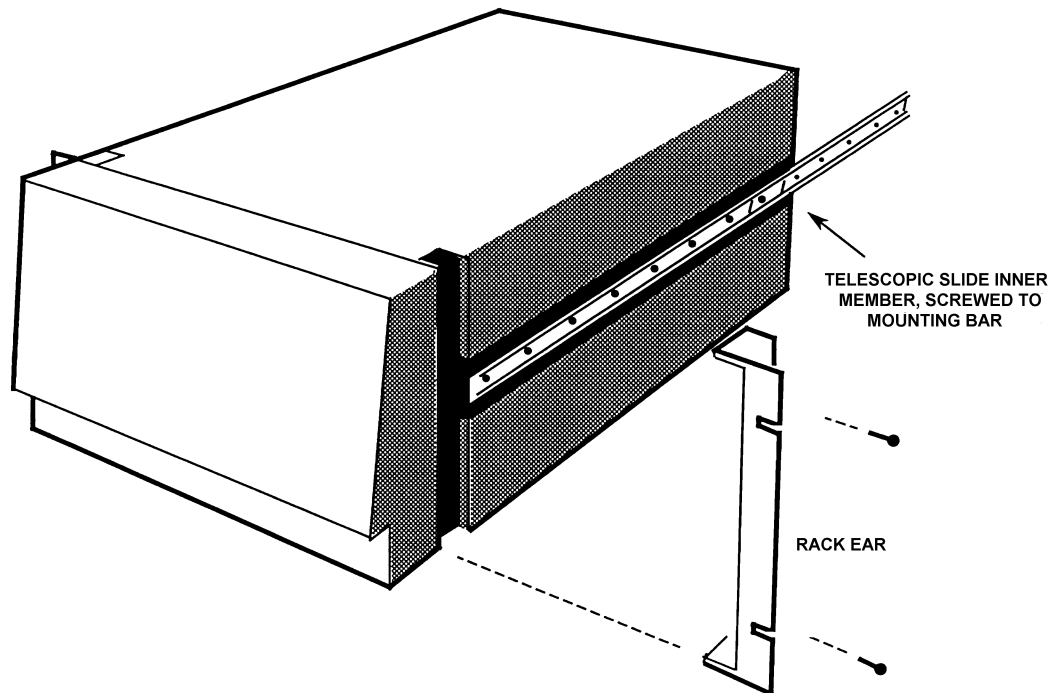

Figure 2.4 - Fitting rack ears and telescopic slide inner members
2. As shown in Figure 2.4, fit the following items to the instrument:
1. As shown in Figure 2.4.